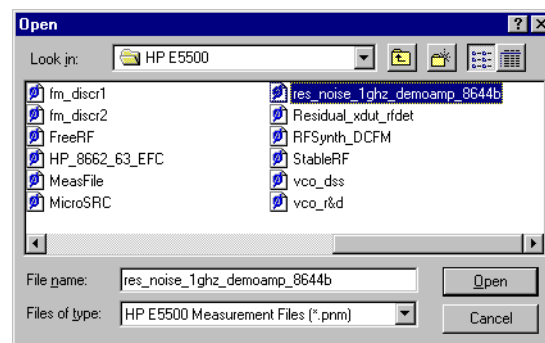

Figure 9-2 Select the Parameters Definition File
- 3 In the **File Name** box, choose “**res_noise_1ghz_demoamp.pnm**” See Figure 9-2.